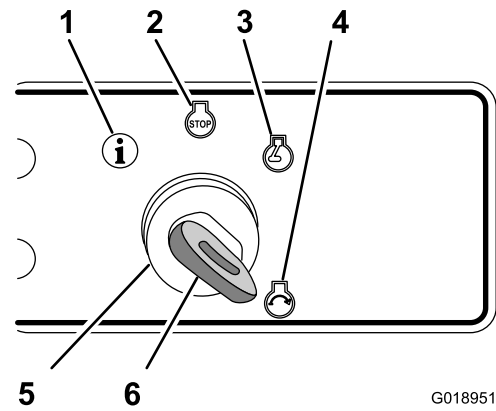

Figure 10
- Start the engine by rotating the key switch to the engine-start position, and then releasing the key when engine starts; the key it will move automatically to the engine-run position (Figure 10).
- Stop the engine by rotating the key switch to the engine-Off position (Figure 10).
- Display the hour meter, the last fault message, and the software version by rotating the key switch to the Information position (Figure 10).